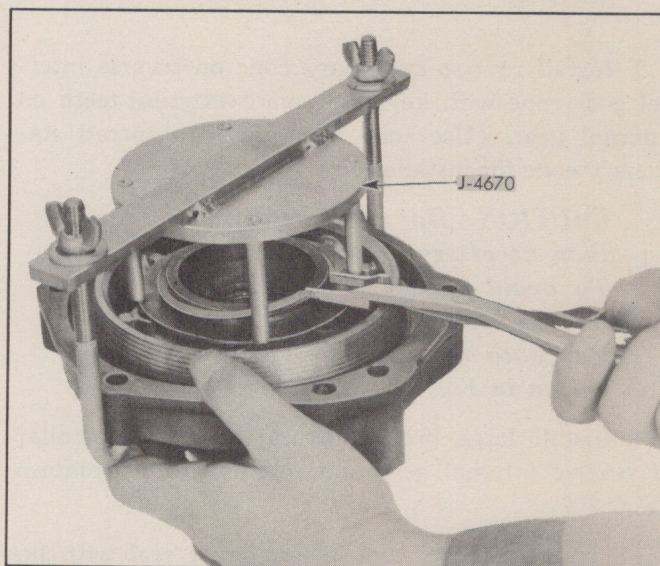

Fig. 267—Installing Reverse Clutch Spring Retainer Snap Ring
15. Install the reverse clutch coil spring retainer and compress springs with special tool J-4670 (Fig. 267).